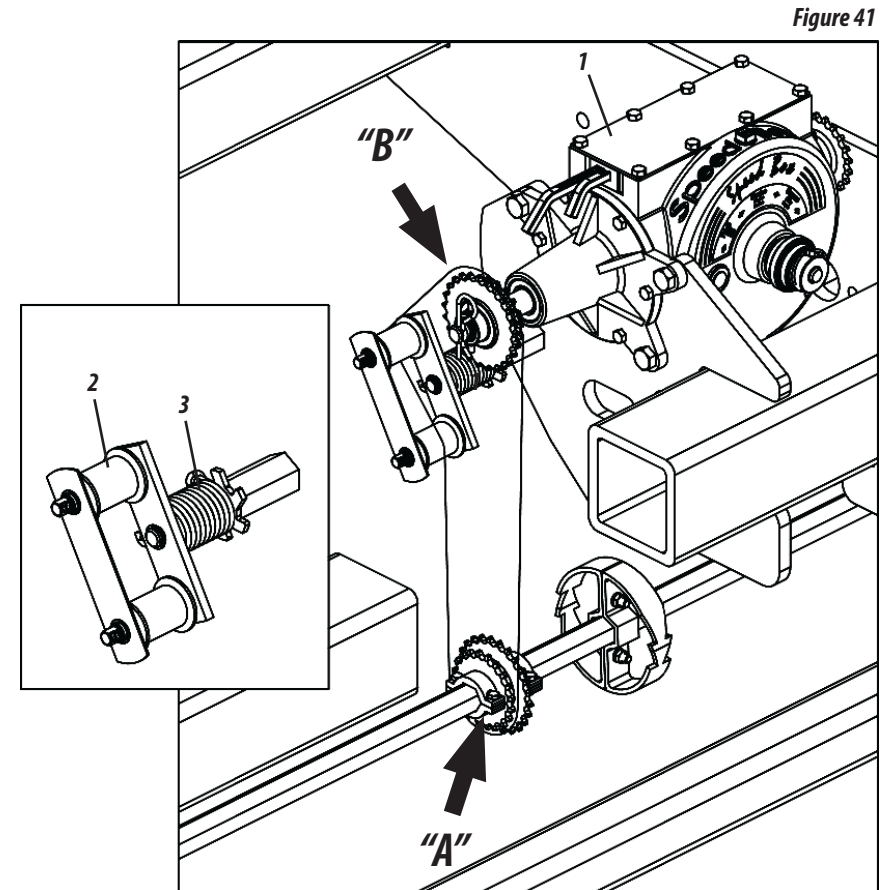

Figure 41
- 12 - The fertilizer adjustment is made by the Speed Box (1). To make further adjustments, reverse current in the motor "A" and moved "B" gear as shown in Figure 41.
- 13 - After changing the gears, check the chain tension. The tensioner (2) is provided with a torsion spring (3) to provide increased flexibility.